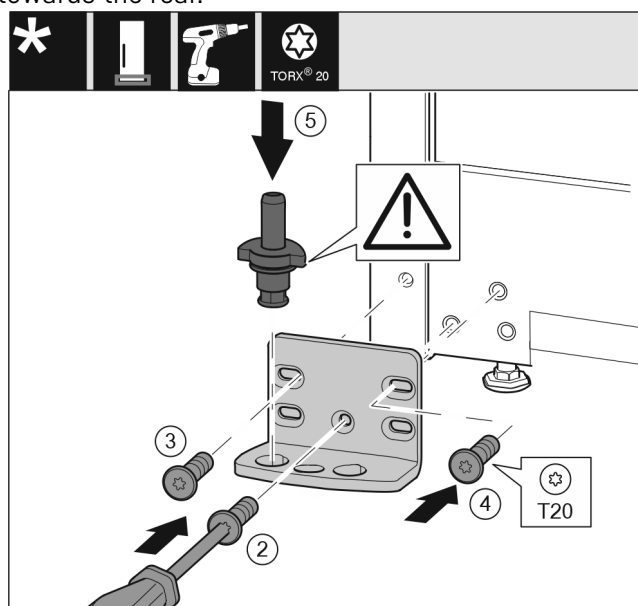

Fig. 17
- Attach the swap bearing block onto the other side and screw it on using a screwdriver. Start with the screw Fig. 17 (2) at the bottom center.
- Tighten screw Fig. 17 (3) and screw Fig. 17 (4).
- Insert the bearing pin Fig. 17 (5) completely. In the process, make sure that the latching cam shows towards the rear.